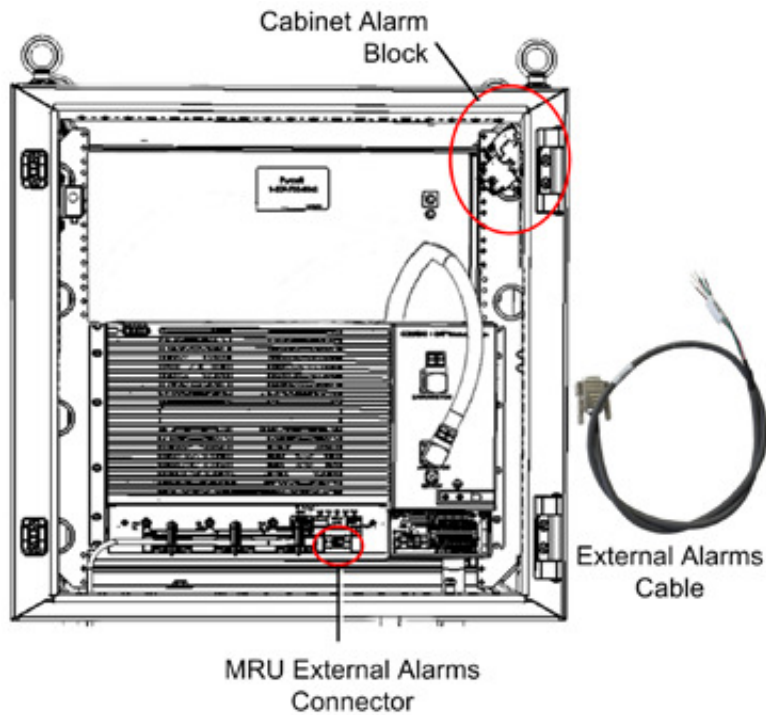

Figure 6-21. Location of External Alarms Connector and Cabinet Alarms Block
2. Route the cable alarm wires to the alarm block, located on the upper right corner of the cabinet. See Figure 6-21.